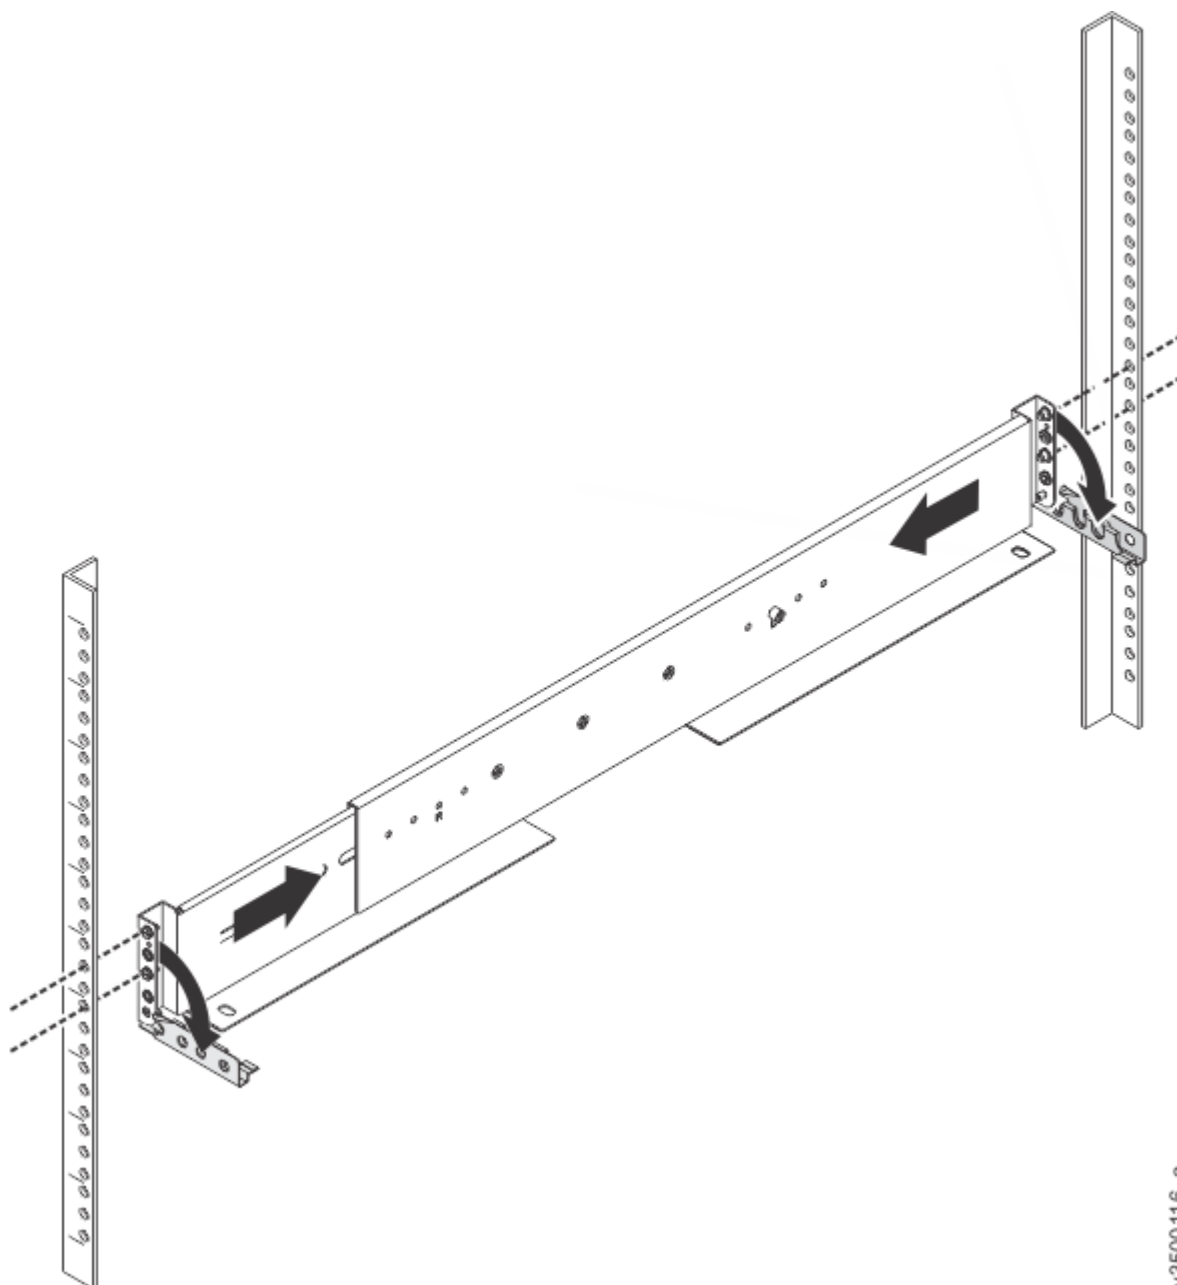

Figure 99. Compressing rail for removal from rack
11. Compress the rail against its spring to shorten it, then remove it from inside the rack (Figure 99 on page 156).